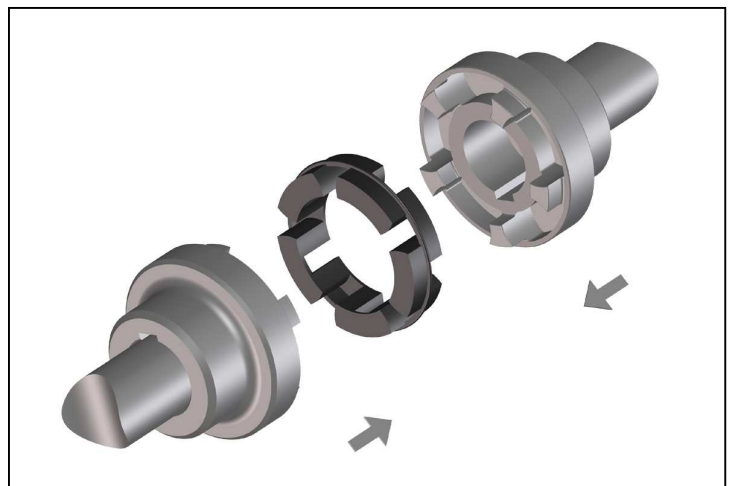

Fig. 5
- Push the shaft ends with the mounted half of the clutch together (Figure 5).